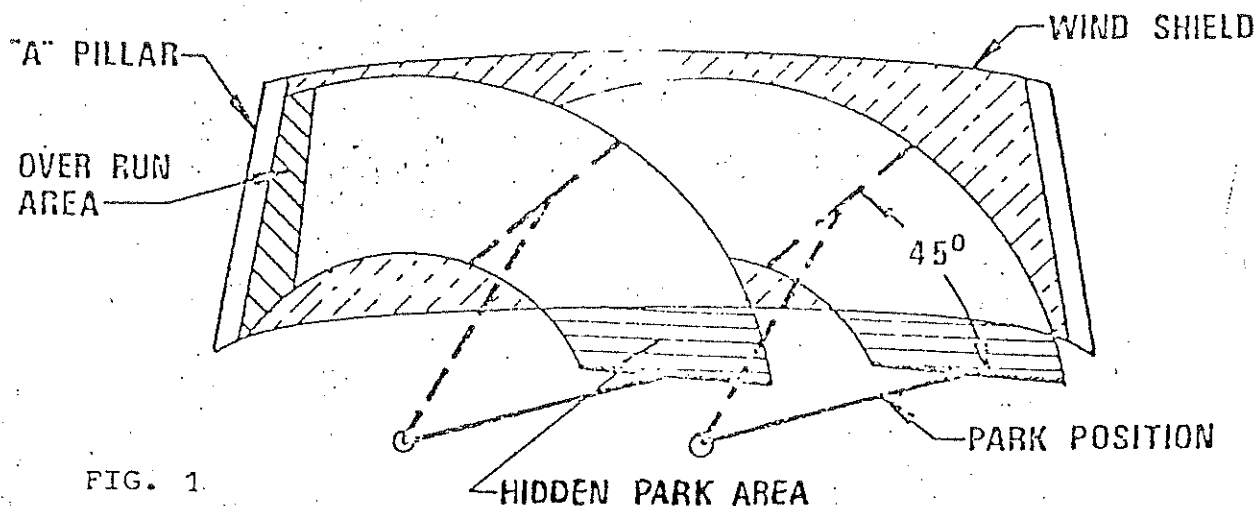
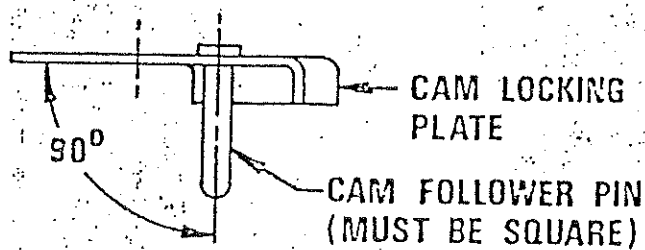

FIG. 1
FIG. 2
2) Move the arms manually from the Parked Position at the stops to a Position approximately 45 degrees UP the screen shown in FIG 1. The cam follower locking Plate should now engage with the opening in the motor crank and lock the arms. If this does not occur, it is Probable that the cam follower Pin is 'out of square' (refer FIG 2) and is unable to engage the spring- FIG 3.
A condition can exist on early production vehicles where there is inadequate clearance between the fascia bracket and the wiring at the base of the lock. See Fig.2. All early production vehicles should be inspected to see that adequate clearance exists in this area. If the clearance is inadequate, the fascia bracket should be bent, or, alternatively, the wiring loom and switch terminals should be taped to prevent chafing and consequent short circuit or fire hazard.